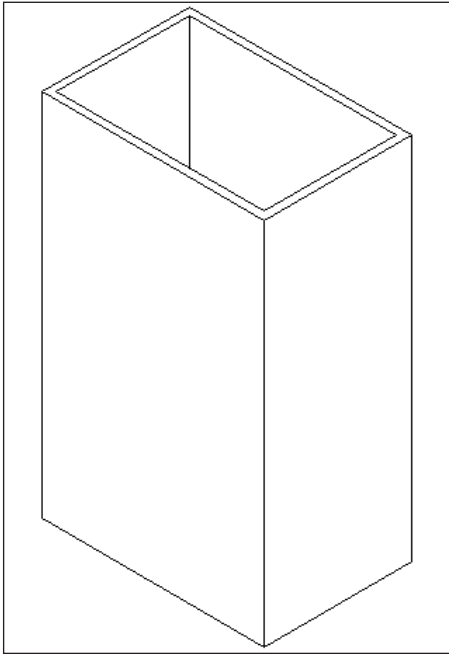

Figure 24-46: The shelled box
8. Save your drawing. It should look like Figure 24-46.